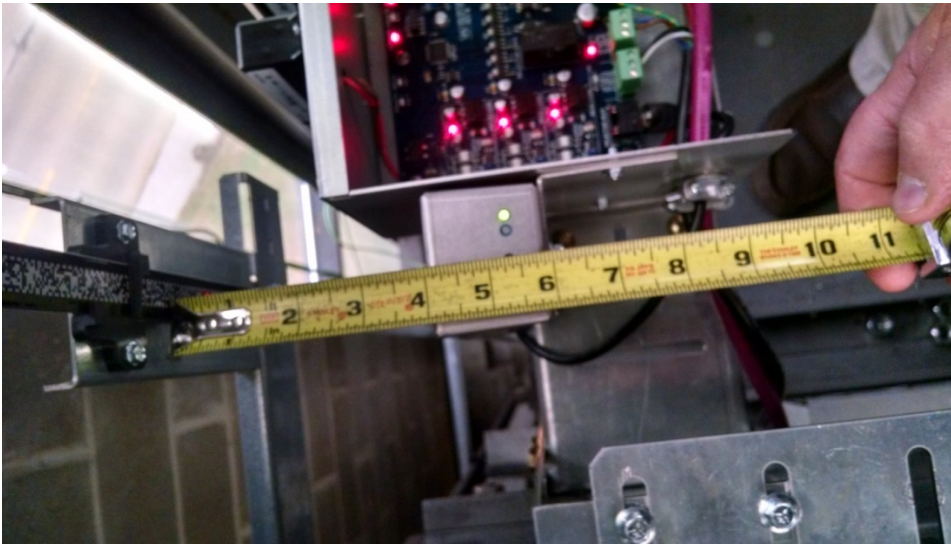

Figure 2.19: Camera 4 inches from tape
- The face of the camera should be 4 inches from the face of the optical absolute encoded tape. See Figure 2.19.